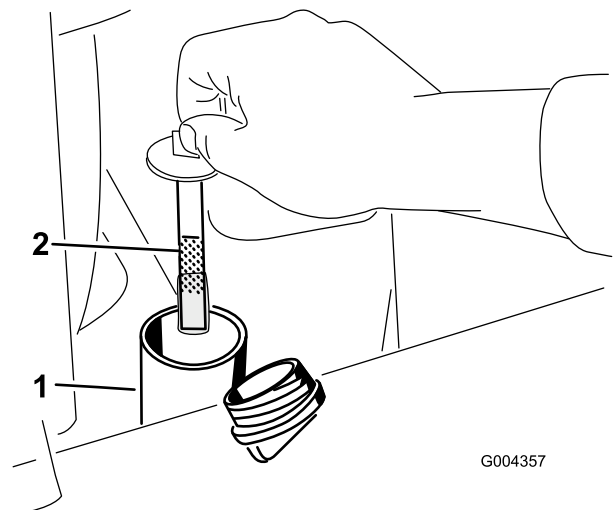

Figure 56
5. Remove the hydraulic tank cap and dipstick (Figure 56).